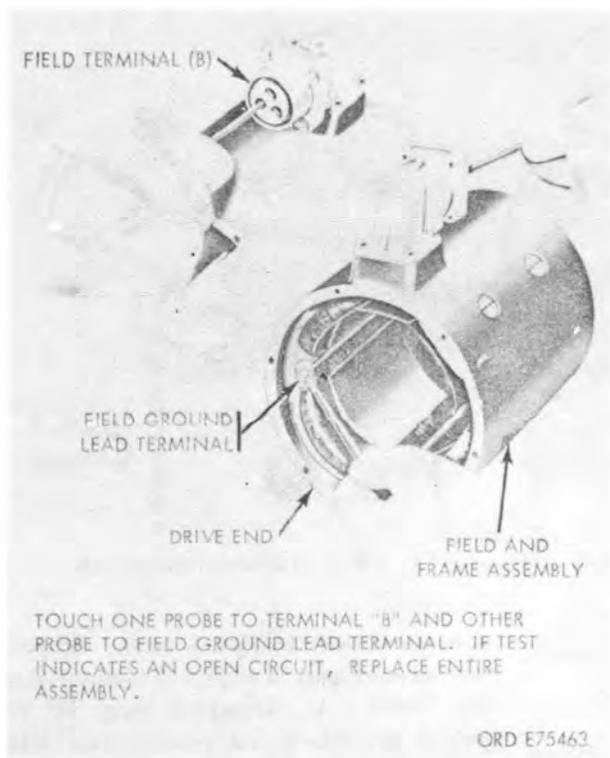

Figure 4-9. Checking housing and windings for open circuits.
- (4) Check field winding for open circuits with test probes as illustrated in figure 4-9.